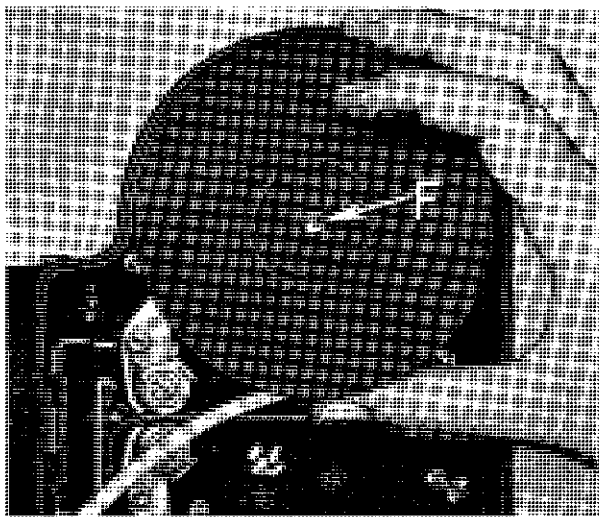
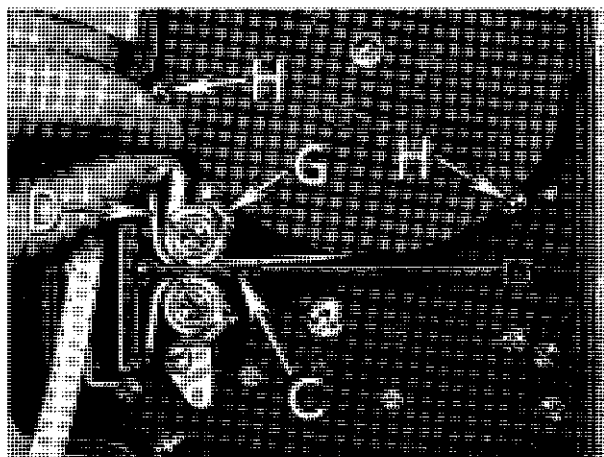

Figure 4
Figure 5
With the square hole down and the leader feeding off the bottom of the spool to the left, as shown in Figure 4, place the spool over the feed spool spindle—F, Figure 4. Be sure that the two floating film guard rollers (H, Figure 5) are outside the film.
5. Insert the leader between the gate arm C and the feed sprocket G, passing it also between the feed sprocket and the upper film guide shoe D, as shown in Figure 5. See that the leader perforations are engaged with the sprocket teeth.